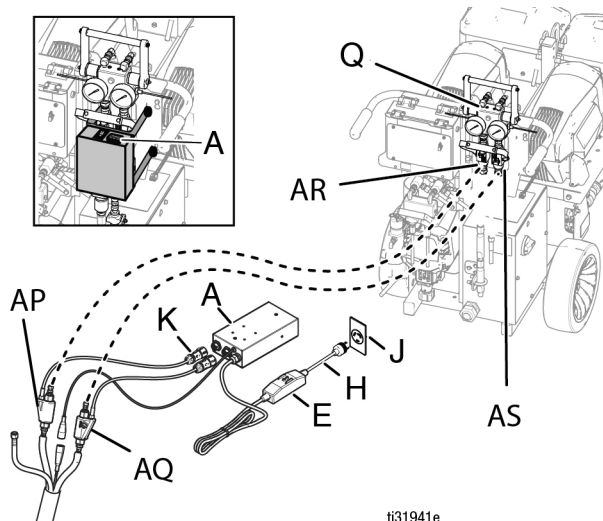

FIG. 3: Connect Hoses to Proportioner
2. Attach the Heated Hose Inlet Fittings (AP, AQ) to the Recirculation Manifolds (AR, AS). See FIG. 3.